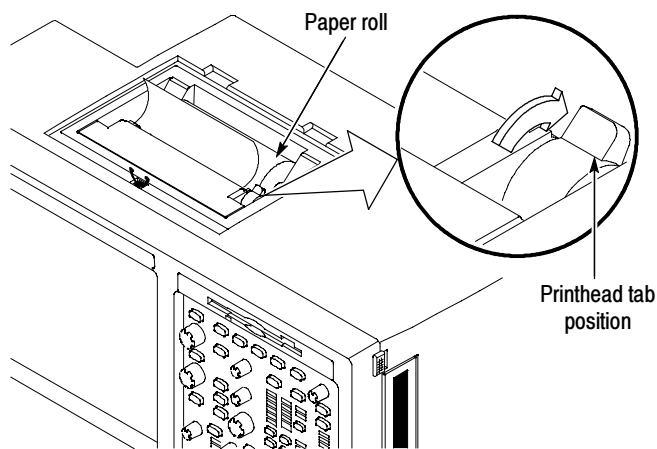

Figure 9: Printer tab position
6. Set the printhead tab back to secure the paper in the printer. See Figure 9.